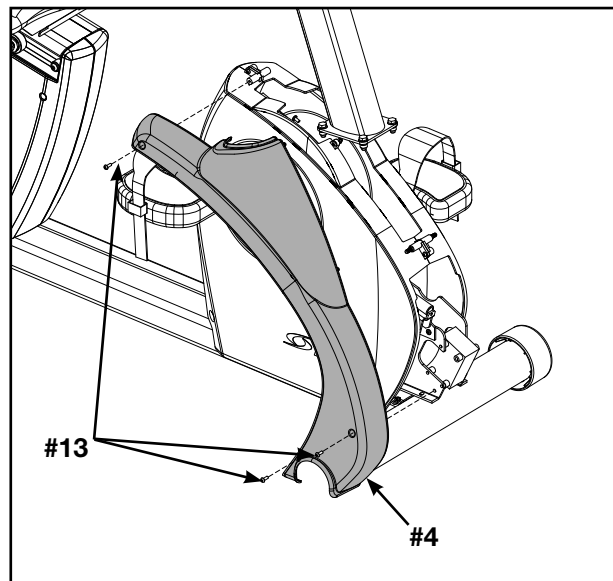

Figure 6
- A. Locate and place the front right cover (#4) on the front of the unit as shown in Figure 6.
- B. Using a Phillips screwdriver, secure with three screws 8-16 x .50" (#13). See Figure 6.